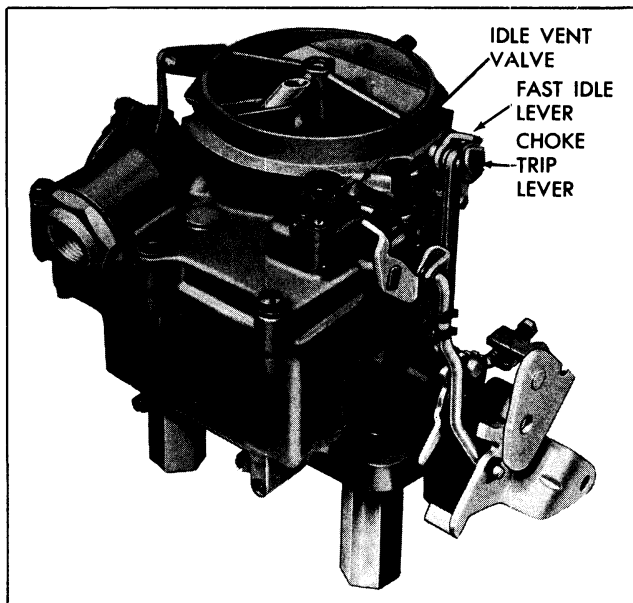

Fig. 6B-18 Rochester 2GC Carburetor
2. Disconnect the pump link (Fig. 6B-18) from the pump lever by removing spring clip. Remove
3. Detach choke intermediate rod (Fig. 6B-17) at lower end by removing clip, then detach choke intermediate rod from choke shaft by rotating until the tang on rod clears the slot in lever.